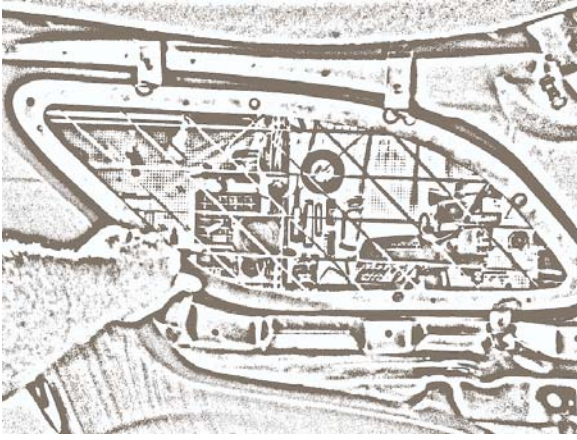

Figure 6
F. Hold window guard up to opening and center with window. (Fig 6)